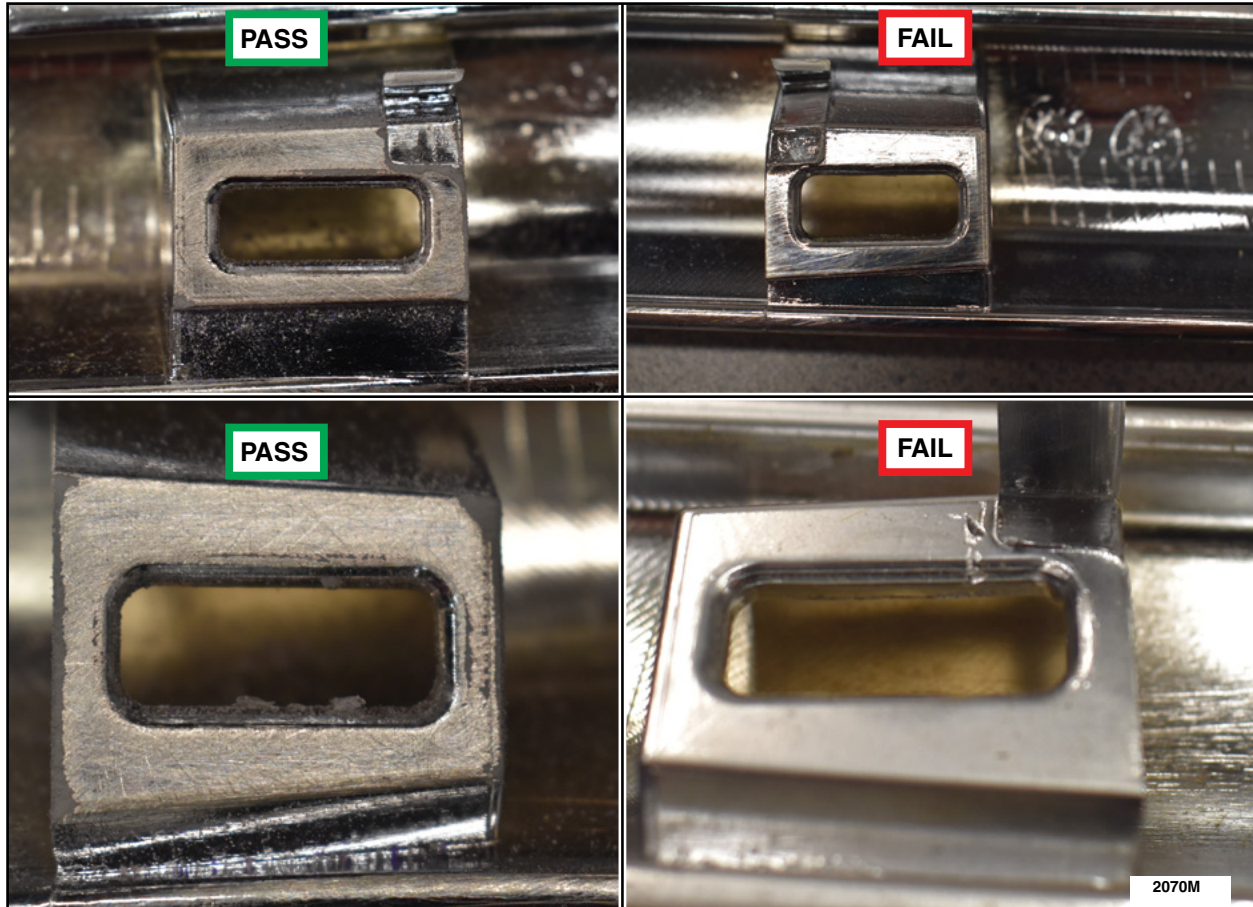

FIGURE 8
8. Without proper abrasion the adhesive will not hold. See Figure 8. Has proper abrasion been achieved?